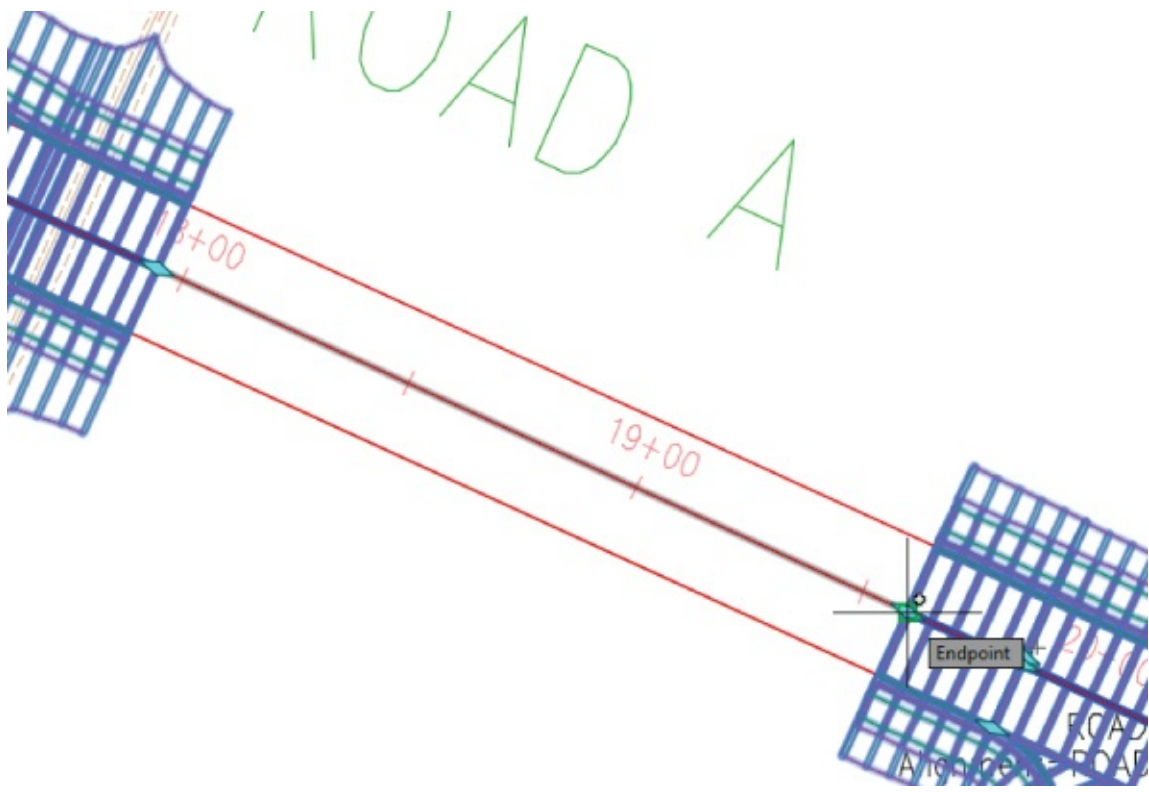

Figure 10.43 Defining the region end station
- d. At the Specify region end station prompt, snap to the diamond grip, as shown in Figure 10.43.